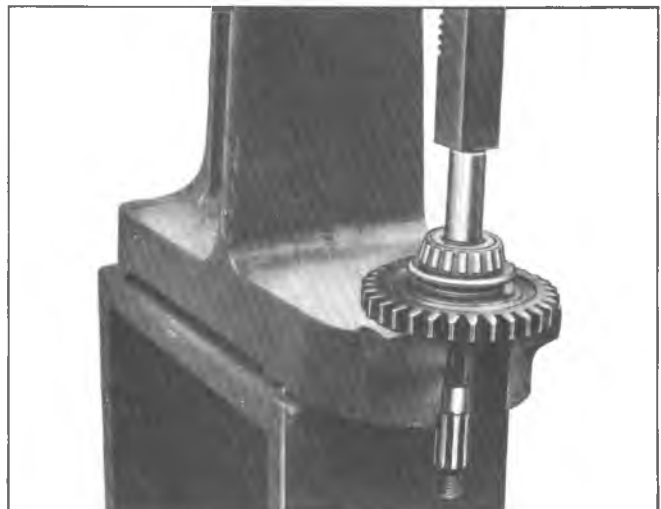

Fig. 5D--Removing Front Output Shaft Rear Bearing
12. Support inner race of rear bearing and press bearing from shaft as shown in Figure 5D.